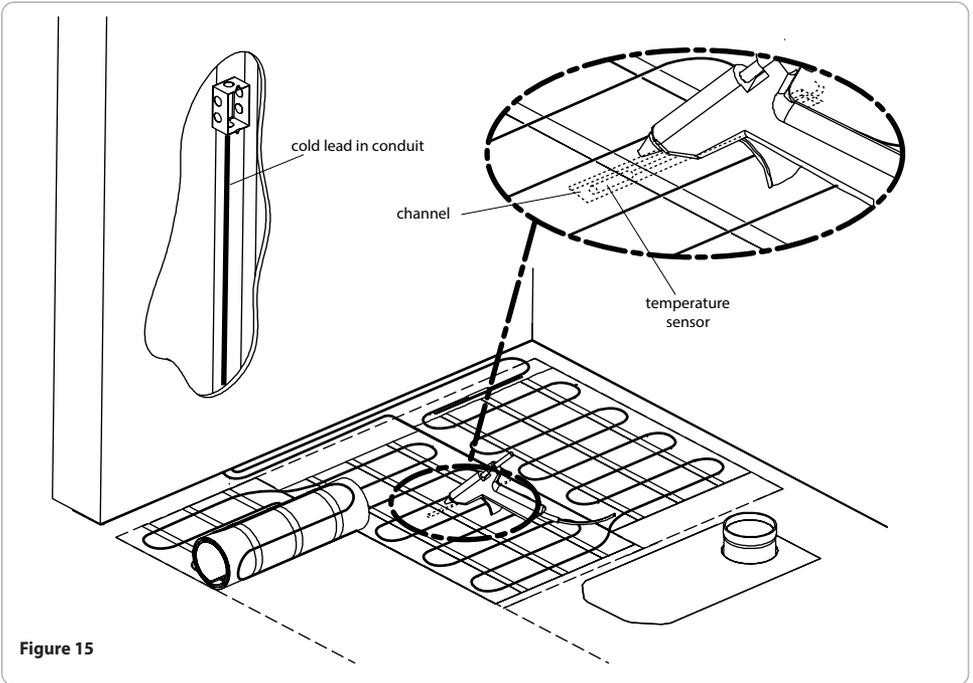

Figure 15
- Glue the sensor to the subfloor (figure 15). The sensor must be solidly fastened to the subfloor to ensure it stays in place when the cement or an equivalent binder (cement glue, ceramic glue, self-levelling cement) is applied.